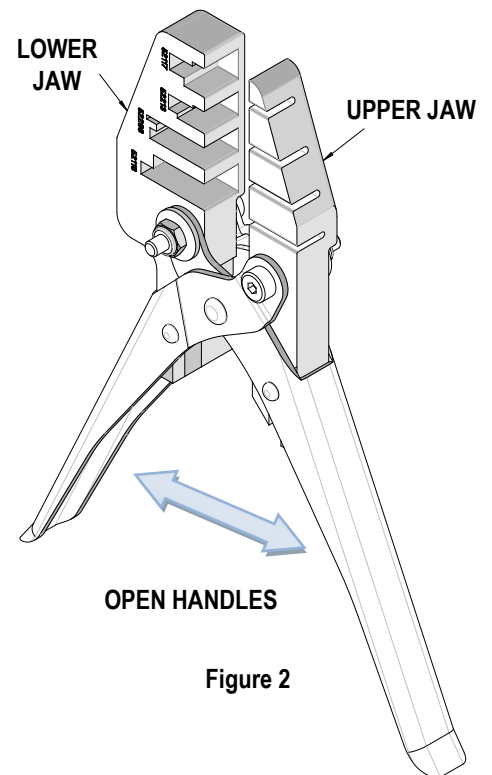

Figure 2
1. Open the tool by pulling on the handles in the direction shown. See Figure 2. Pull the handles as far as they will go this will allow loading pockets to accommodate any of the housings.